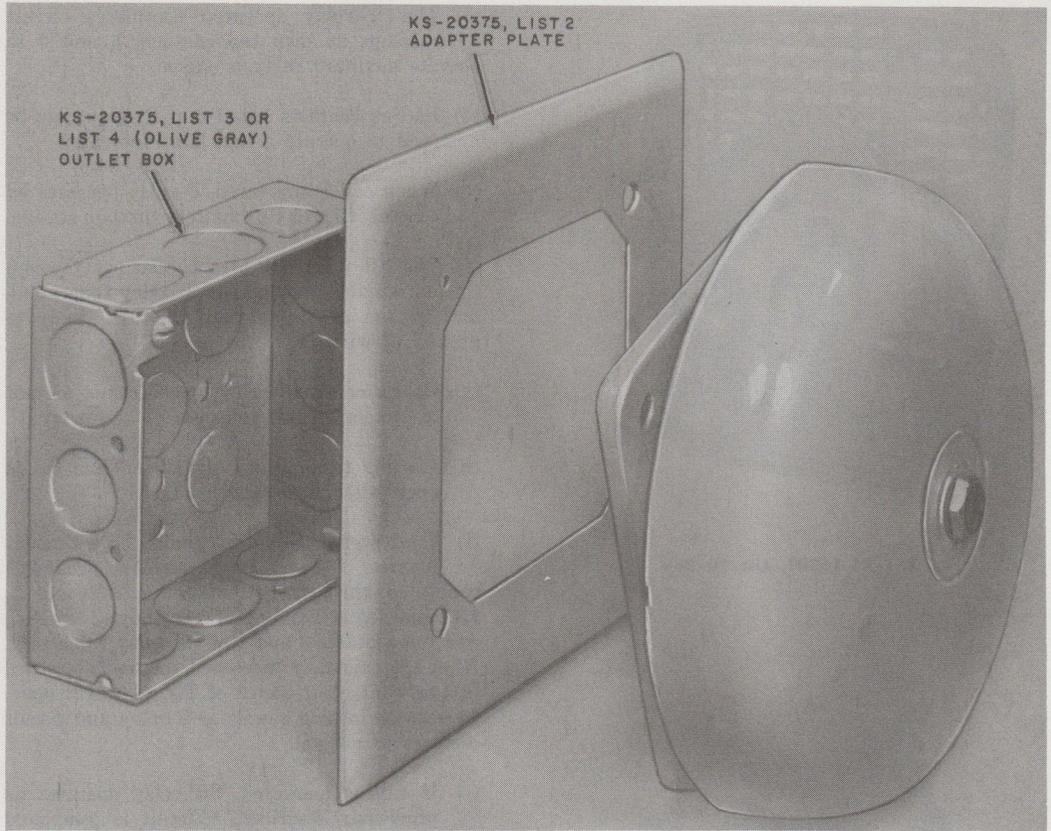

Fig. 17—KS-20375, List 1 Bell, List 2 Adapter Plate, List 3 or 4 (Olive Gray) Outlet Box
3.15 Signals, KS-20375L1 (Fig. 17):